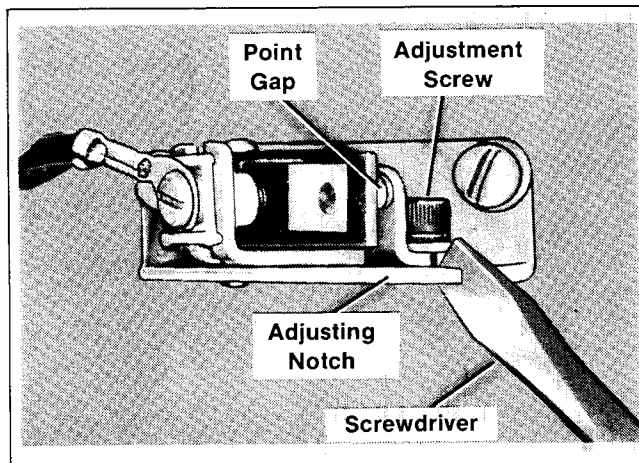

Figure 3-3. Breaker Point Gap Adjustment
4. Measure the gap with a feeler gauge. The gap at full open should be .017/.023 inch (.432/.580 mm). If not, loosen the point gap adjustment screw with an offset screwdriver or an allen wrench. Adjust the gap to .017/.023 inch (.432/.580 mm) by inserting a screwdriver blade in the adjusting notch and shifting the movable plate. See Figure 3-3. Securely tighten the adjusting screw after setting the gap.